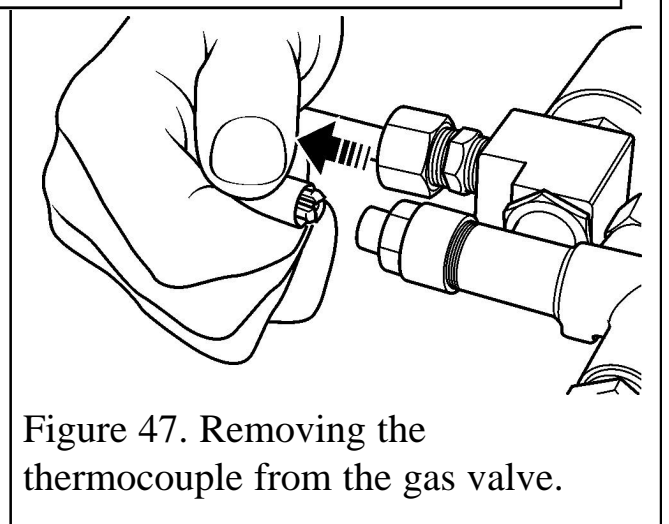

Figure 47. Removing the thermocouple from the gas valve.
3. Remove the thermocouple 'push on' connector to the gas valve. To do this, firmly hold the thermocouple connector and gently pull it clear of the gas valve (See figure 47). **Never hold the thermocouple wire when pulling.**